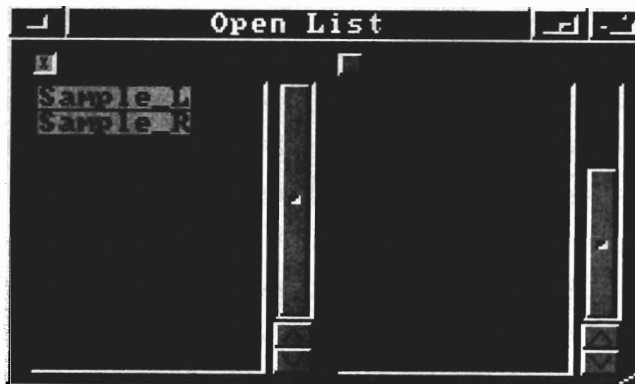

Figure 3-3. Open List
1. Launch Open List from the Applications Menu, (^ O). Figure 3-3. (You can close any other modules that are open.)